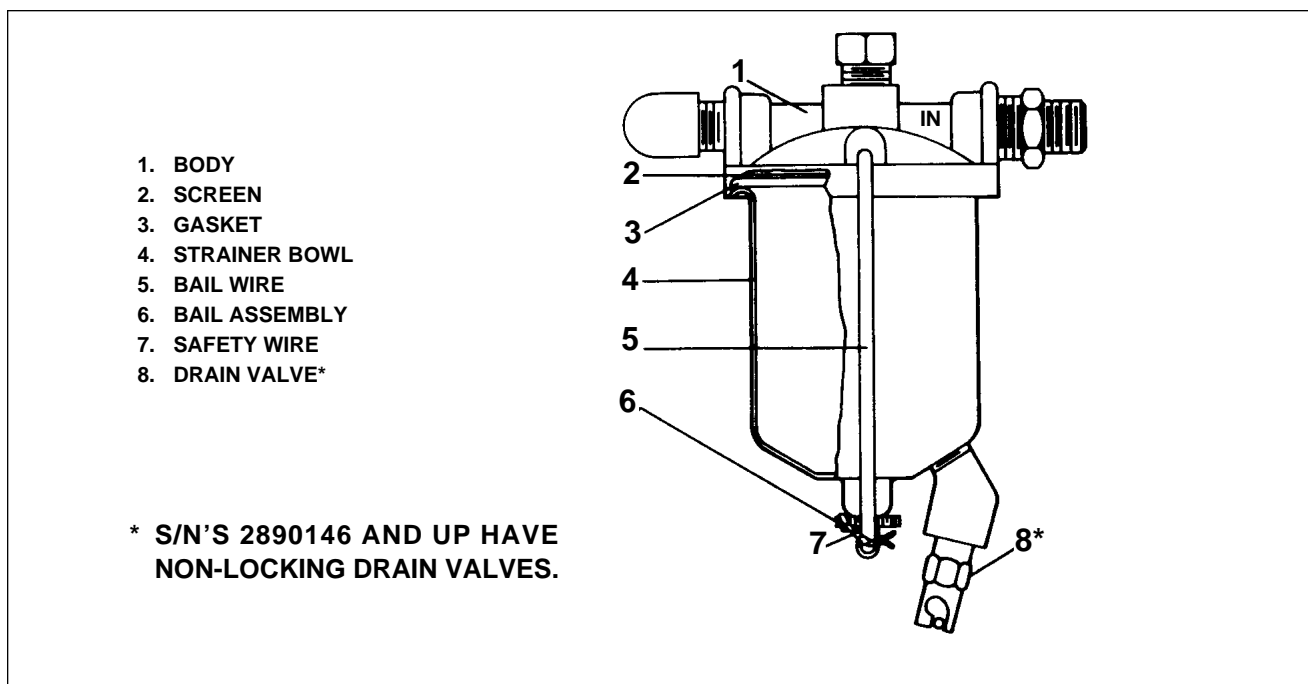

Figure 28-5. Fuel Filter Bowl and Screen
- (1) Archer II: disconnect the fuel inlet and outlet lines.
- (2) Archer III: Disconnect fuel inlet line from pump. Disconnect the main fuel and fuel primer outlet lines from tee fitting.
3. Disassembly Of Electric Fuel Pump (Refer to Figure 28-5.)
6. Assembly Of Electric Fuel Pump (Refer to Figure 28-5.)
- a. Insert plunger assembly (10) in tube (buffer spring end first). Check fit by slowly raising and lowering plunger, (test for sticking). If a click cannot be heard, interrupter assembly is not functioning properly and pump must be replaced.